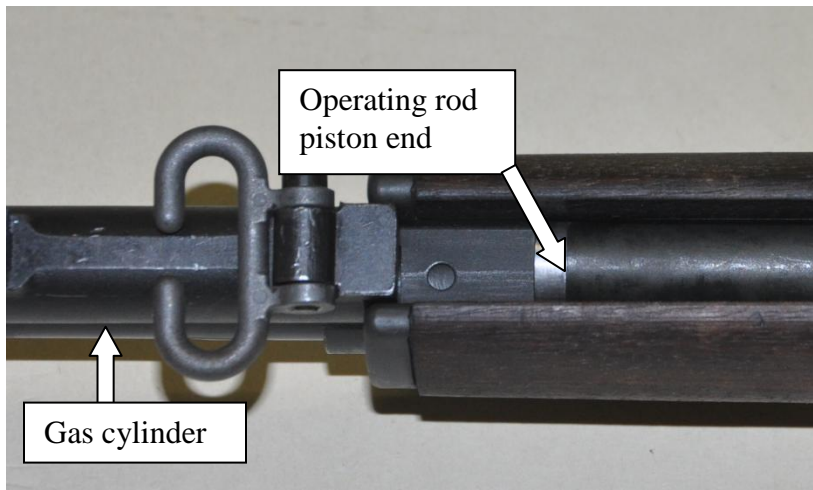
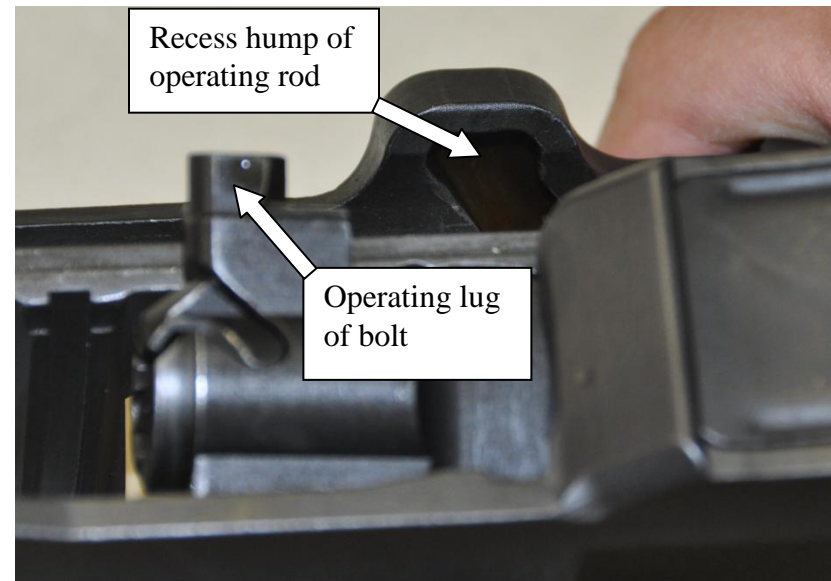

Figure 37. Operating rod piston end insertion
Figure 38. Recess in the hump and operating lug of bolt
- 4) To replace the operating rod, place the piston end into the gas cylinder while weapon is inverted (fig 37). Rotate the weapon upright and align the operating rod so that the recess in the hump fits over the operating lug of the bolt (fig 38 and 39). Move the operating rod fully rearward and then forward until the bolt is closed.